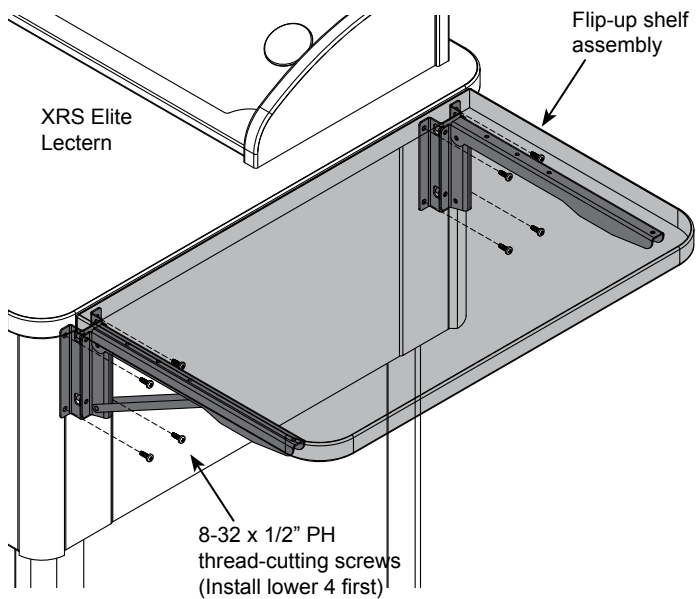

Figure 5.1
2. Extend each shelf bracket to by depressing the release lever and lifting until it locks into the 90° position. **Figure 5.1.**
3. Install the (4) lower 8-32 x 3/8" PHM screws into the side panel leaving about 1/4" of threads exposed.
4. Set the shelf assembly onto the (4) lower screws using the notched brackets.
5. Secure the shelf assembly by installing the (4) upper 8-32 x 3/8" PHM screws.